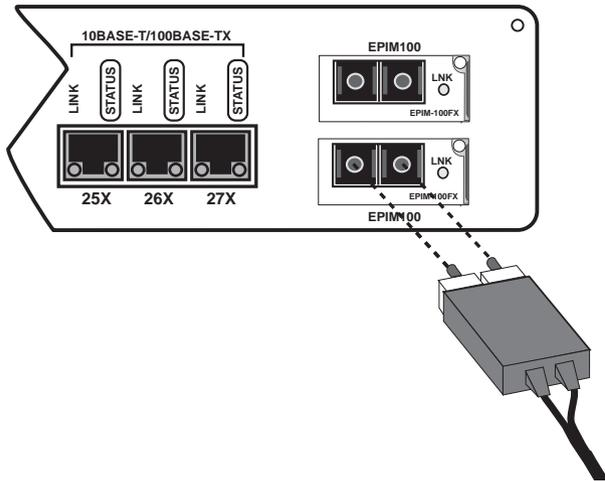

Figure 2-7. EPIM100-FX Port
2. Insert one end of the SC connector into the EPIM100-FX installed in the SmartSTACK Ethernet ELS10-27. See Figure 2-7.